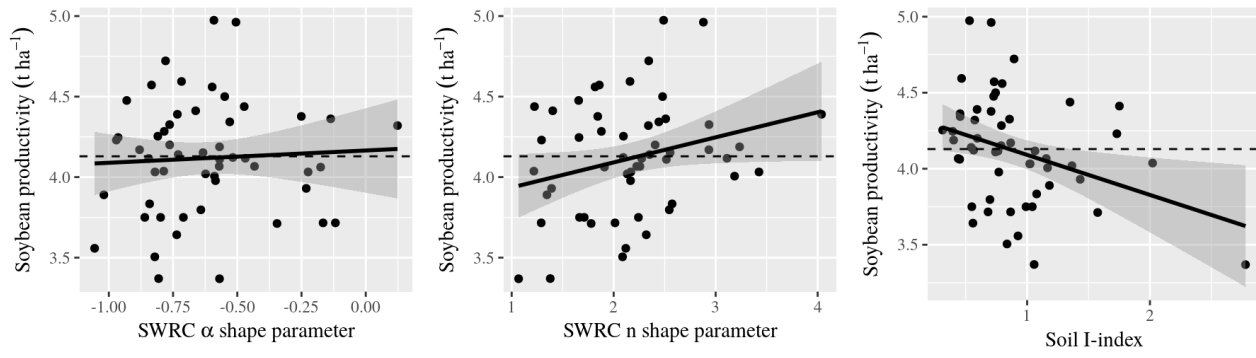

Fig. 3
9 **Fig. 3** (a, b, c) Relationship of the alpha parameter (α), n parameter and inflection point (I) of the Van Genuchten